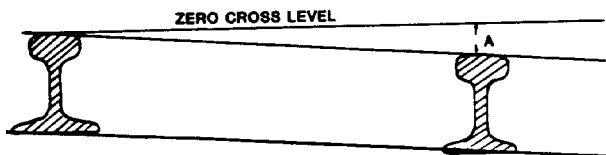

Figure 12-3. Crosslevel measurement.
a. *Definition.* Crosslevel is the difference in elevation between the top surfaces of the two rails measured at right angles to the track, as shown in figure 12-3. Crosslevel measurements shall include any evidence of vertical movement under load.